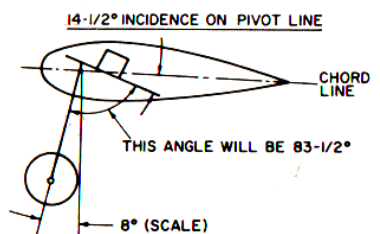
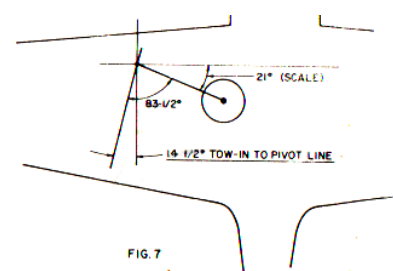

FIG. 6
FIG. 7
- The pivot line must now be mounted in the wing at 14.5 degrees incidence within the section (**figure 6**) and 14.5 degrees toe-in (**figure 7**).